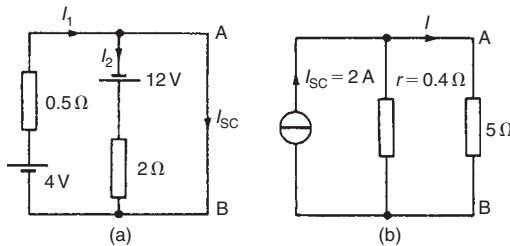

Figure 13.59
- (i) The $5\ \Omega$ branch is short-circuited as shown in Fig. 13.59(a)
- (ii) From Fig. 13.59(a),
- (iv) From the Norton equivalent network shown in Fig. 13.59(b) the current in the $5\ \Omega$ resistance is given by: